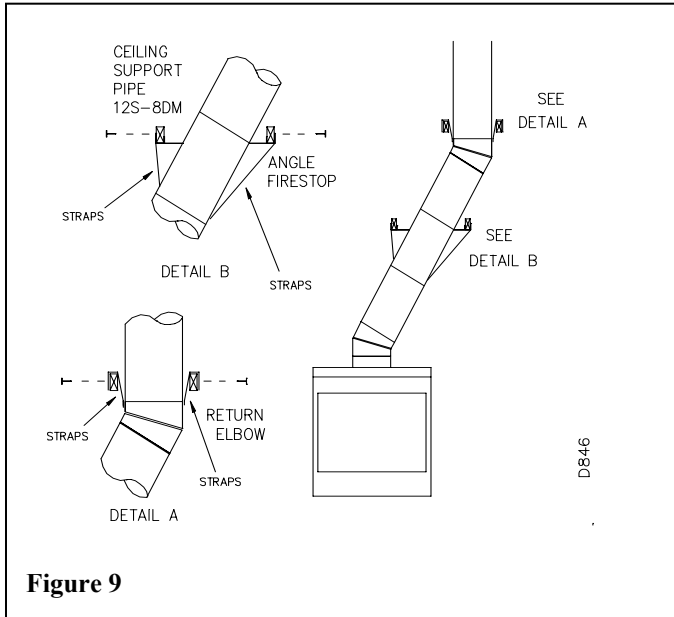

Figure 9
1. To achieve desired offset, you may install combinations of 12", 18", 24", 36" and 48" length of double wall pipe (SEE SINGLE OFFSET CHART, FIGURE 9 & 11).
2. Chimney weight above offset rests on return elbow. Straps must be securely nailed to rafters or joists (see figure 9, details a & b).